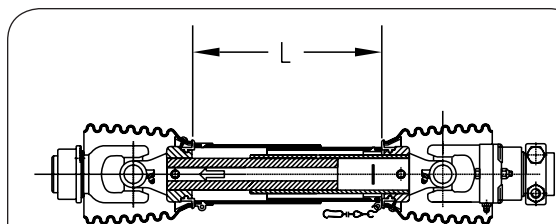

Fig. 4-13
1. Fully collapse PTO shaft and measure length "L" (Fig. 4-13).